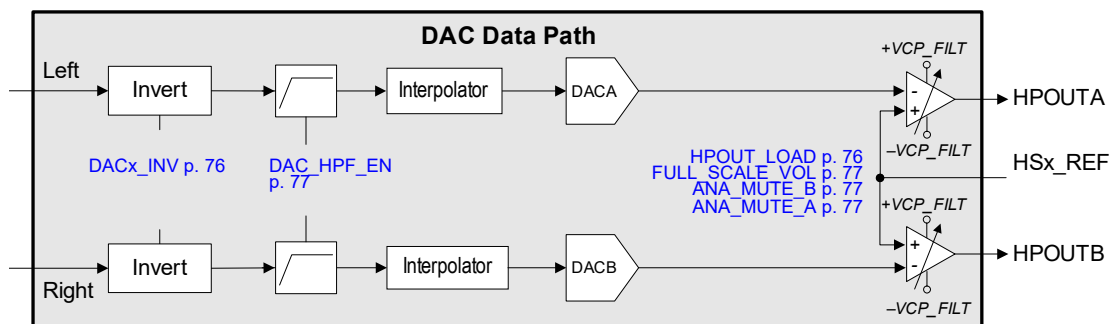

Figure 4-3. Analog-Output Signal Flow
This section describes the headphone (HP) outputs. The CS43L36 provides an analog output that is fed from the mixer. Fig. 4-3 shows the general flow of the analog outputs.